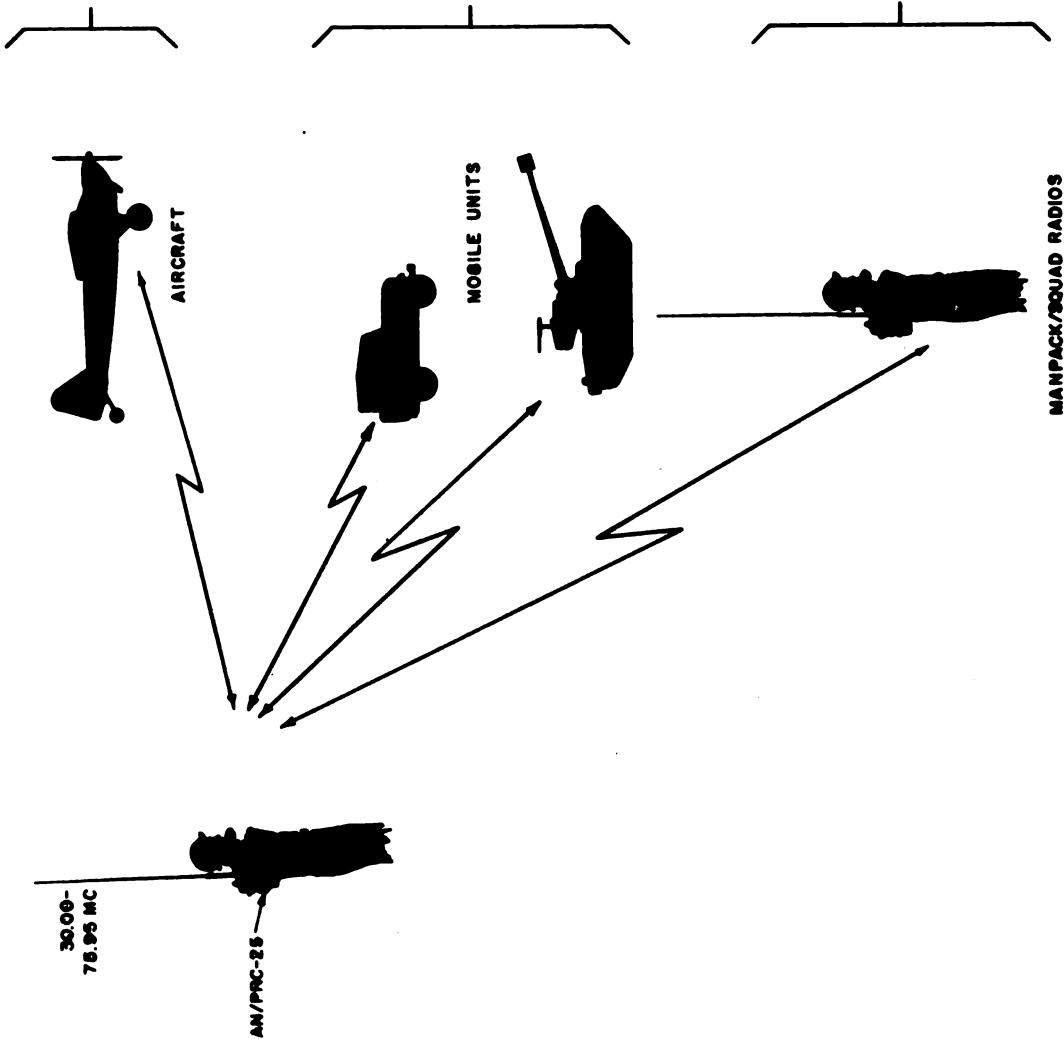

Figure 3-3. Typical radio systems compatible with ET-505/PEC-65, AN/PEC-65.
3-11. System Application (fig. 3-3)
Figure 3-3 shows various frequency-modulated (FM) radio sets with which the RT-505/PRC-25 can communicate within the 30-75.95-megacycle (mc) band. The chart below lists the frequency ranges, the channel spacing of the radio sets, and their associated publications. All radios listed, except those in which preset crystals are required, can tune to any frequency within its operating range. Take note of the channel spacing in kilocycles. For example, communication with the Radio Set AN/PRC-6 can occur on 50.00 mc, 50.20 mc, 50.40 mc, etc.